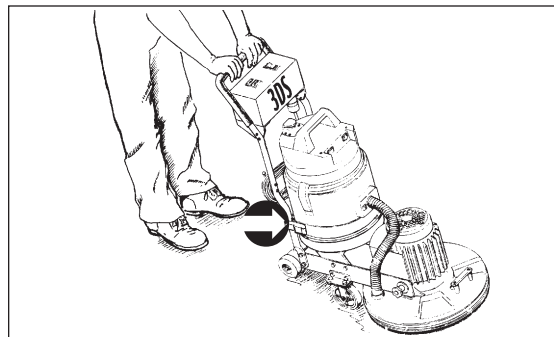

Figure 9
7. Set the dry vacuum on the vacuum support straps with the center bottom in the 2" diameter hole. NOTE: The vacuum hose port should be facing the sanding unit motor. Attach the vacuum strap around the base of the vacuum. (See Figure 9)